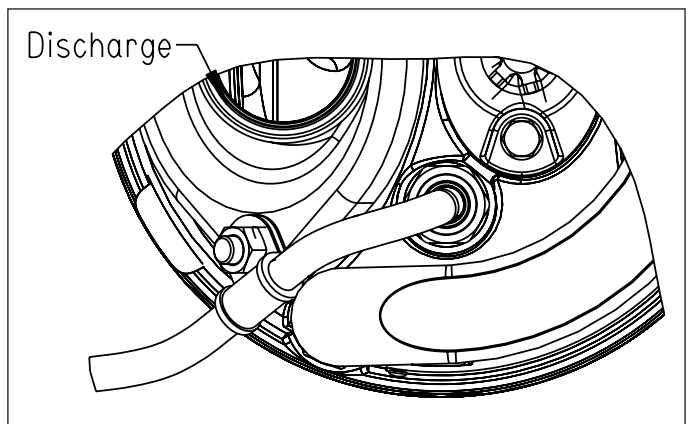

Fig. 6
- Assemble cable holder on nearest stud for outlet according to Fig. 6